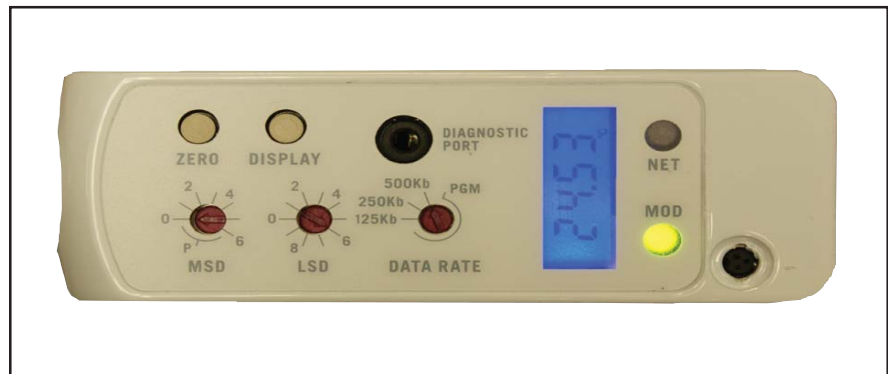

Figure 5-3 Display Set to %FS
2. Looking at the top of the GF1XX, press the "Display" button until the LCD display label is "%FS" as shown in Figure 5-3. Three button depressions from the MACID label display.